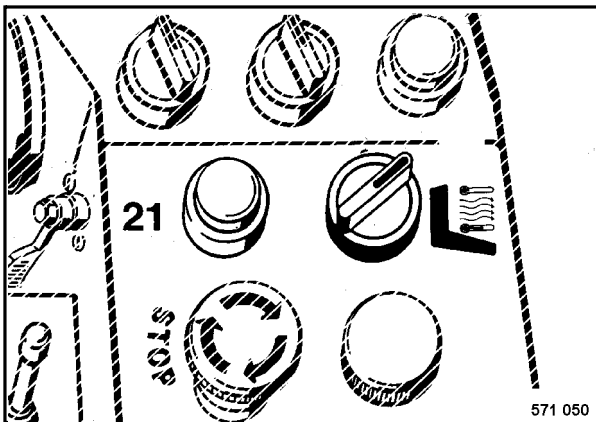

Fig. 14
- Actuate the push button 21 (Fig. 14) for 2 seconds.